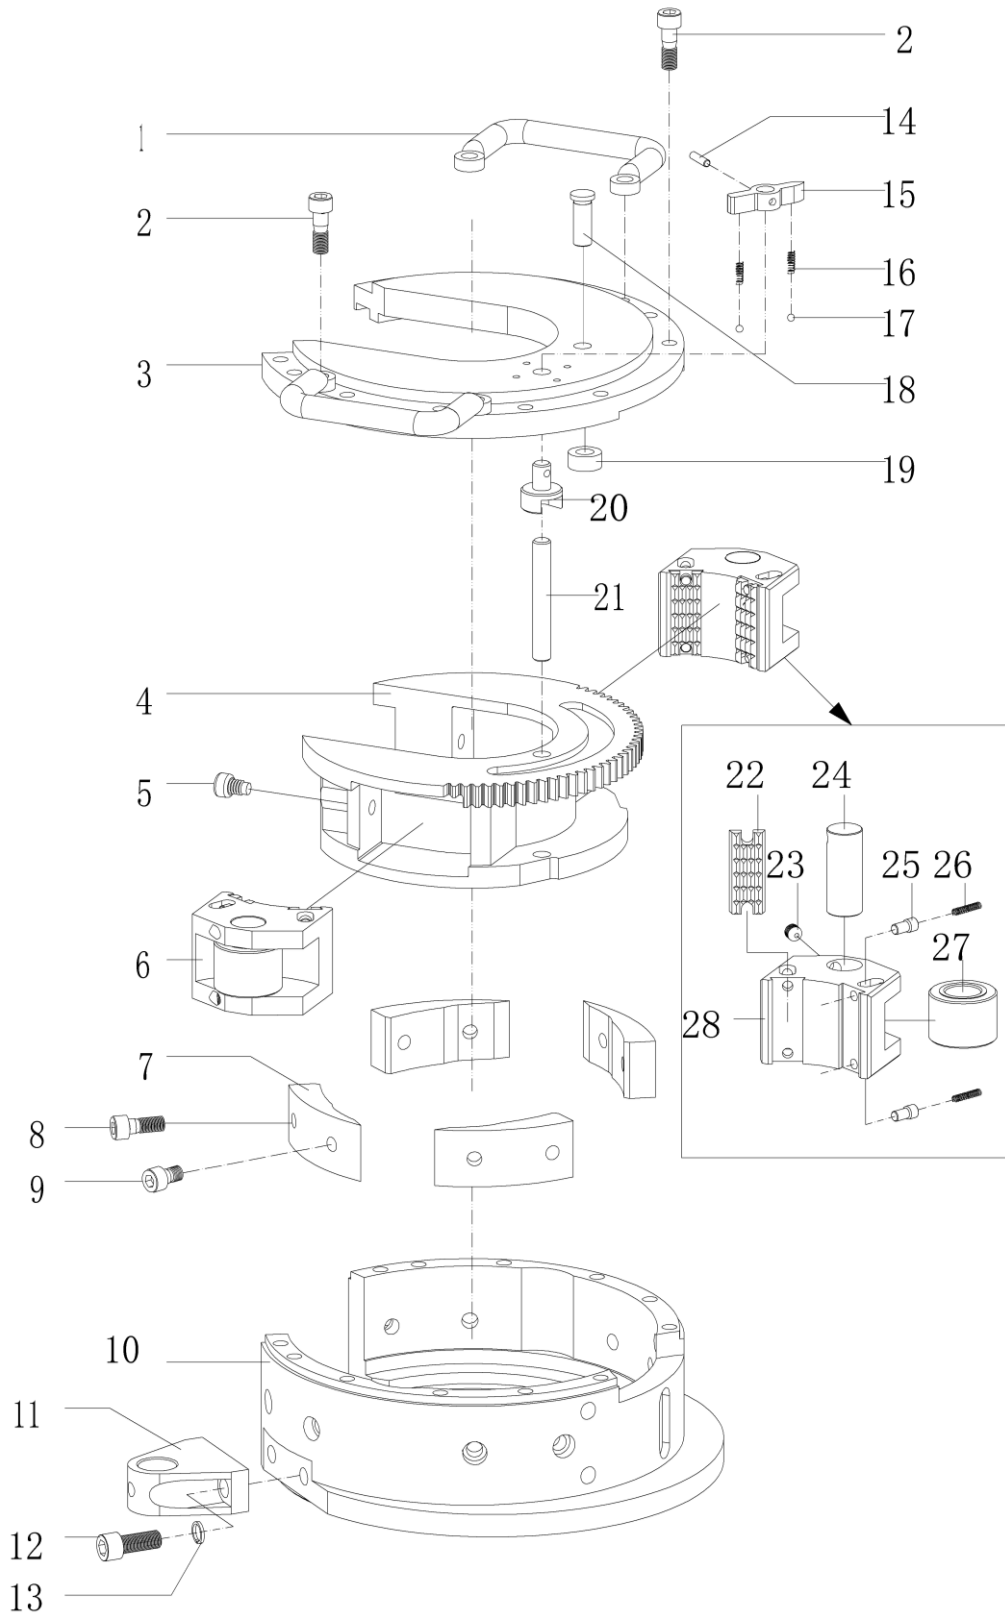

Fig 14
9.10 Backup tong head assembly and parts list(Fig.14,Table10)